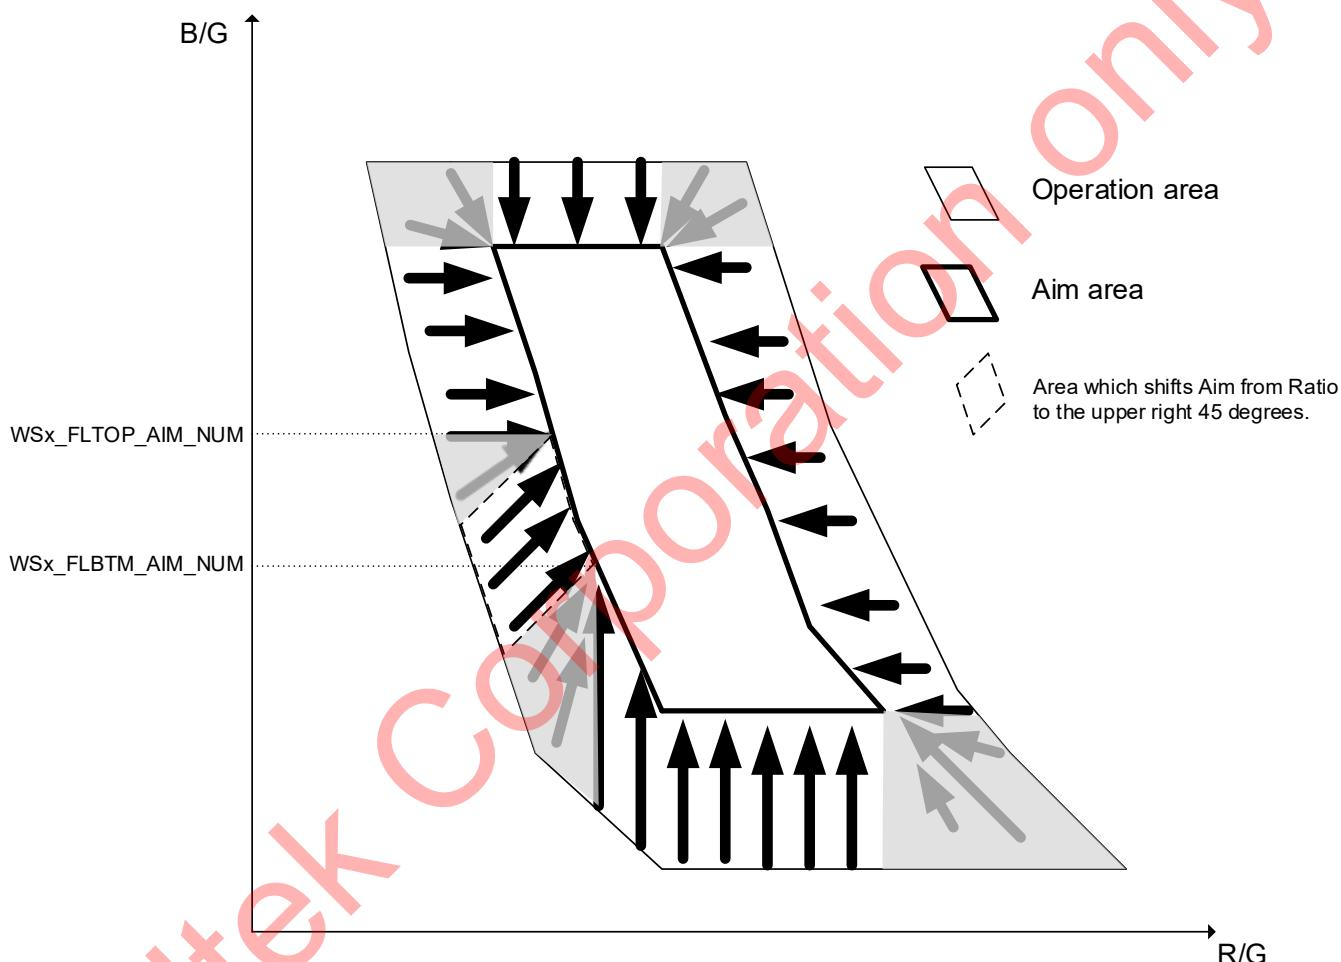

Figure 5-36 Directions of the Aim Point for the Positions of the Ratio Point
The sensor adjusts the white balance gain by estimating the **Aim** point from the **Ratio** point in order for the **Cont** point to track the **Aim** point. The **Aim** point is estimated on the border of the Aim Area as shown in “Figure 5-36” corresponding to the position of the **Ratio** point. When the **Ratio** point is within the Aim Area, the coordinates of the **Ratio** point will be the coordinates of the **Aim** point as is.
In the R/G and B/G coordinate system areas that contain a lot of green component, if only the red or blue component changes, the output image may appear unnatural in color. In this case, the sensor can set the area (indicated by the broken lines in “Figure 5-36”) where the sensor changes both the red and blue components at the same time to reduce any unnatural color.
* “Figure 5-36” illustrates the settings of the Aim Area.